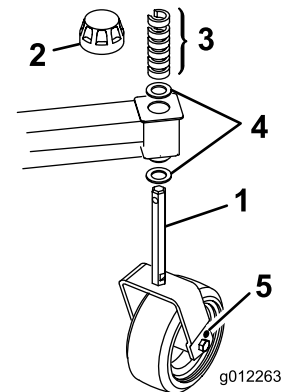

**Figure 11**
2. Drill out the 0.438 inch diameter holes (Figure 11 & Figure 12) in each side of the castor forks to 0.50 inch or 0.516 inch diameter.
1. Remove the tensioning cap from the spindle shaft and slide the spindle out of the front castor arm. Remove the washer from the spindle shaft. Slide the spacers onto the spindle shaft to get desired the height-of-cut, then slide the washer onto the shaft (Figure 11).
2. Push the castor spindle through the front castor arm, install the other thrust washer and remaining spacers onto the spindle, and install the tensioning cap to secure the assembly (Figure 11).